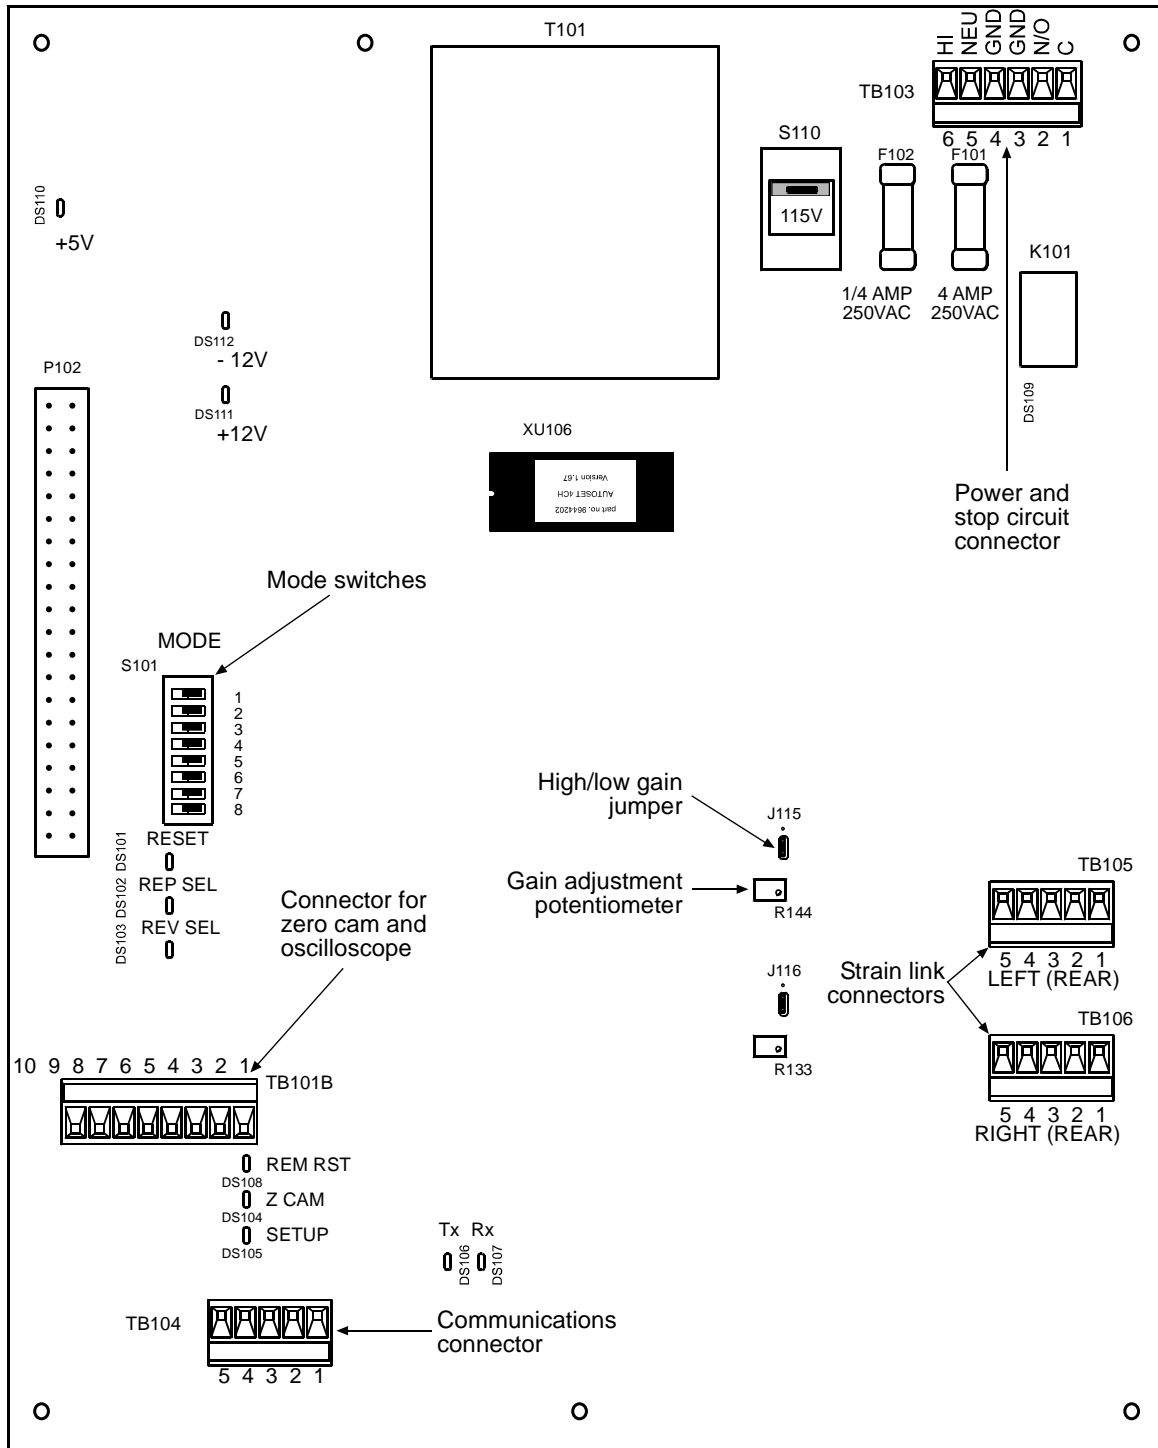

Figure 2-5. AutoSetPAC 2-Channel Processor Board: Location of Important Components
2. Mount the board, using the four (4) standoffs provided, referring to Figure 2-5 for mounting dimensions. Standoffs are 6-32 and 1/2 in. long. Recommended screw size is 6-32 x 3/8 in.